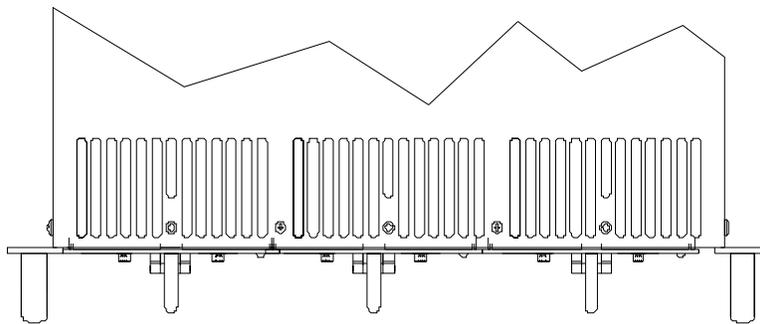

FIGURE 7. MODULE INSERTION, STEP F
- F. The module is fully seated with all connectors engaged when the front panel is aligned flush with the front surface of the mounting ears or adjacent fully seated modules (Figures 7 and 8). Set the front panel retaining latches to the closed position to prevent inadvertent module removal. Only then should the front panel circuit breaker of the power supply module be turned on.